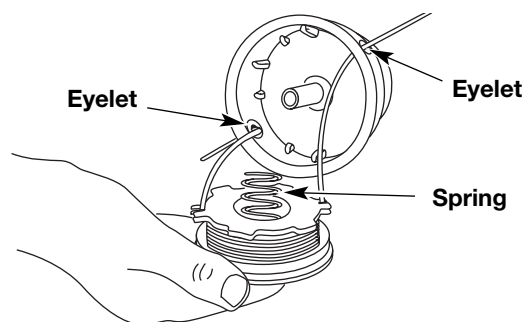

Fig. 21
13. Insert the ends of the line through the eyelets in the outer spool and place inner reel with spring inside the outer spool (Fig. 21). Push the inner reel and outer spool together. While holding the inner reel and outer spool, grasp the ends and pull firmly to release the line from the holding slots in the reel.
5. Insert the ends of the line through the eyelets in the outer spool (Fig. 21).